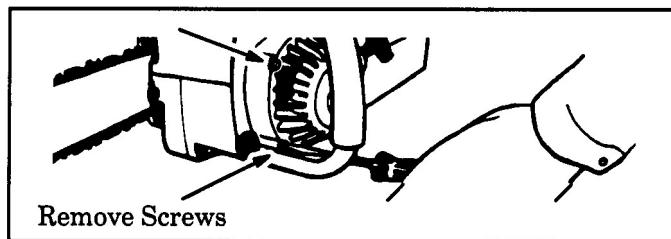

Figure 37
2. Remove the screws on the side of the fan housing. Figure 37.